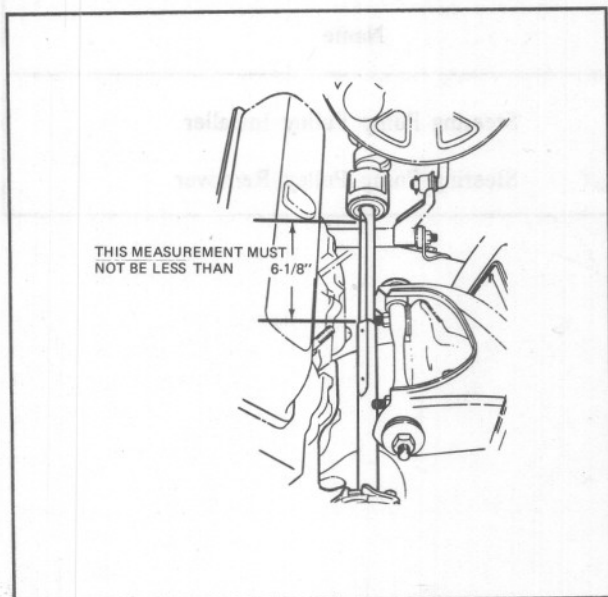

Fig. 9-6 Checking Lower Shaft for Collapse
1. Check for lower steering shaft collapse by measuring as shown in Fig. 9-6.